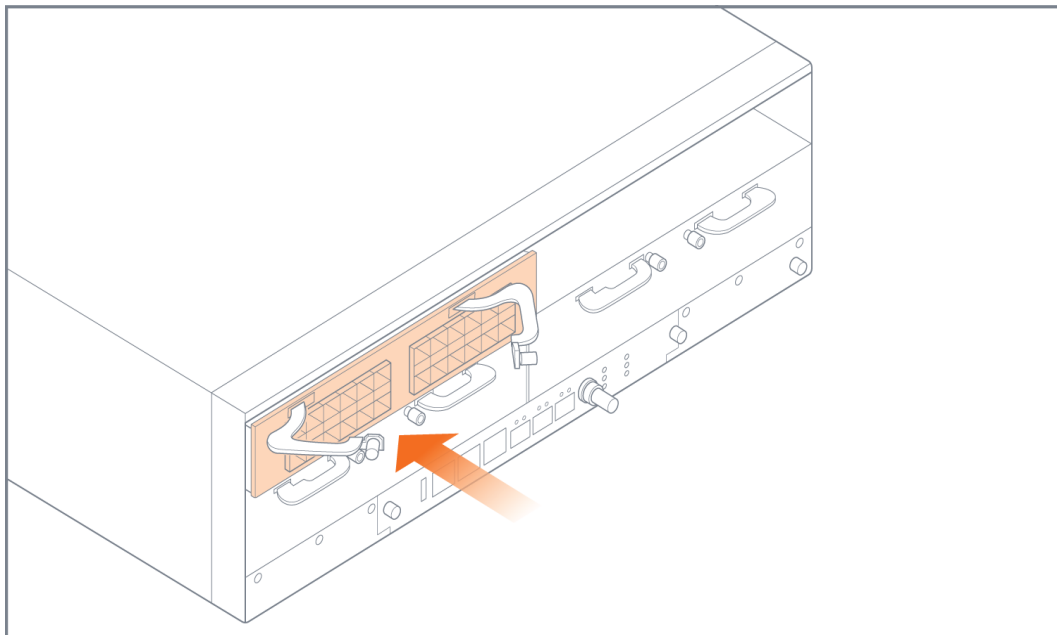

Figure 3-12: Module Insertion
2. Carefully slide the module into the bay until it mates with the mid-plane as shown in Figure 3-12 on page 68.